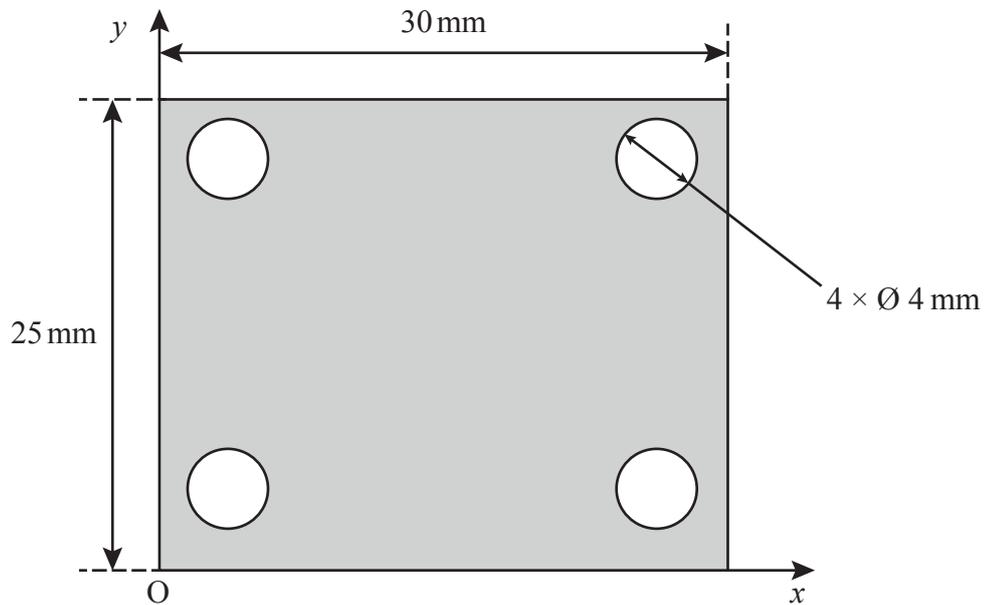

Fig. 6
- (c) Fig. 6 shows an aluminium plate in the shape of a rectangle aligned within a Cartesian coordinate system, (x, y) , with the origin at the corner marked O. The plate is 30 mm long and 25 mm wide and near each corner is a hole with diameter 4 mm.